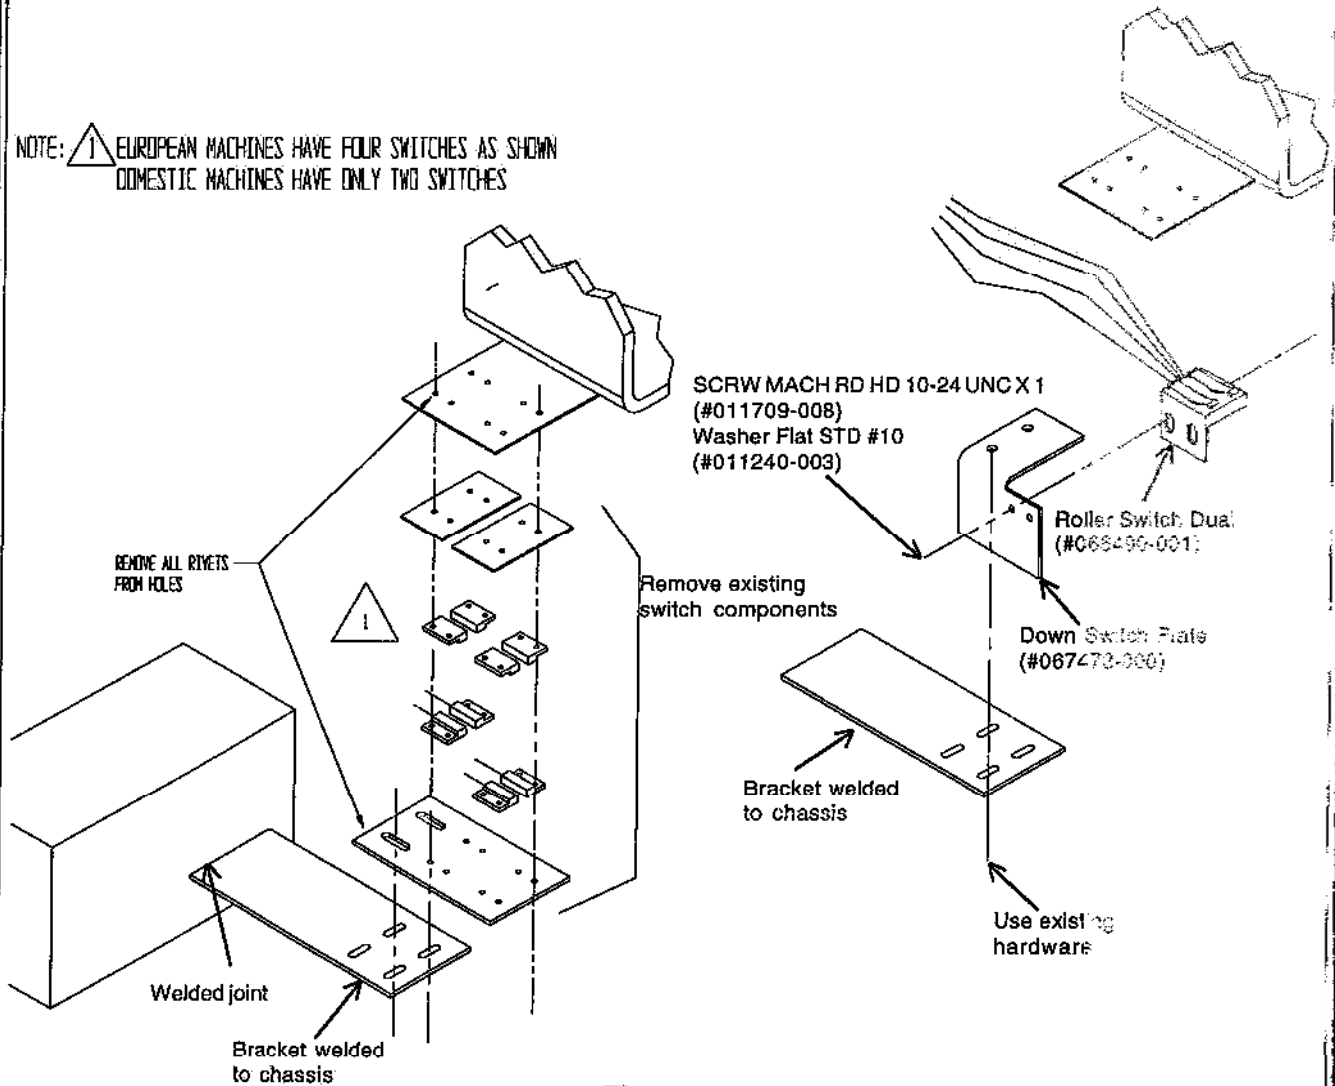

Figure 2
3. Remove the existing white proximity switches, rivets and shim plates. See Figure 2.
5. Attach Roller Switch Dual (#066490-001) and Platform Down Bracket (#067473-000) as shown in Figure 2.